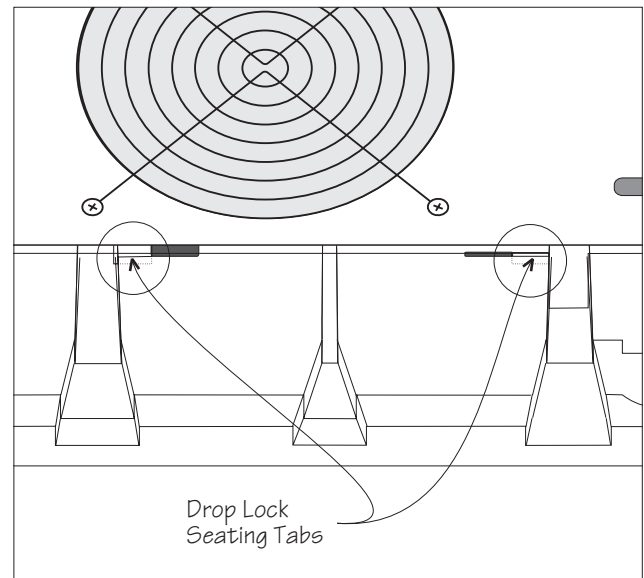

Fig 5-8 Seating Tabs When Module is Properly Installed.
3. Slide the power module firmly into the bay to engage the internal connector. The “drop lock” seating tabs will fall into place. See figure 5-8.